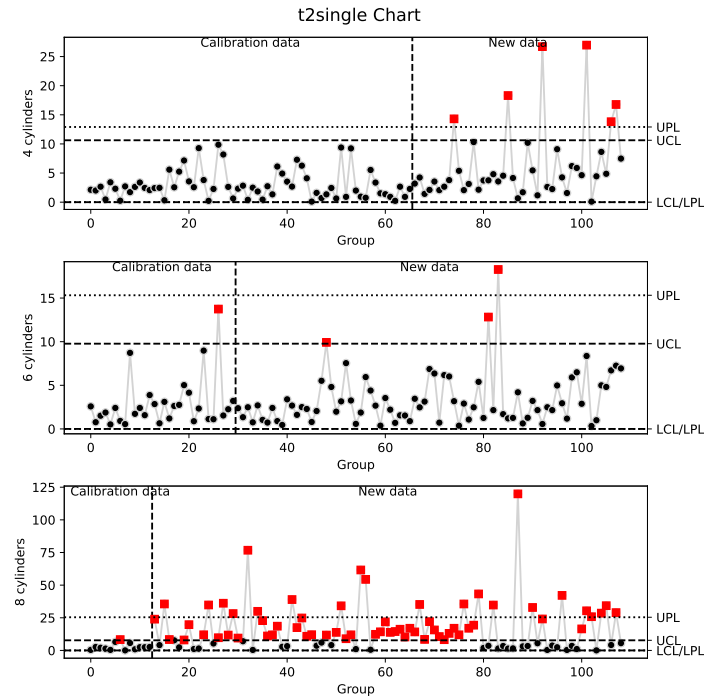

Fig. 4.3:  $T^2$  charts for the **CAR** dataset using subsets based on number of cylinders to derive internal targets (Exercise 4.3)
**Solution 4.3** Create  $T^2$  chart using separate computations by cylinders. The chart is shown in Fig. 4.3.